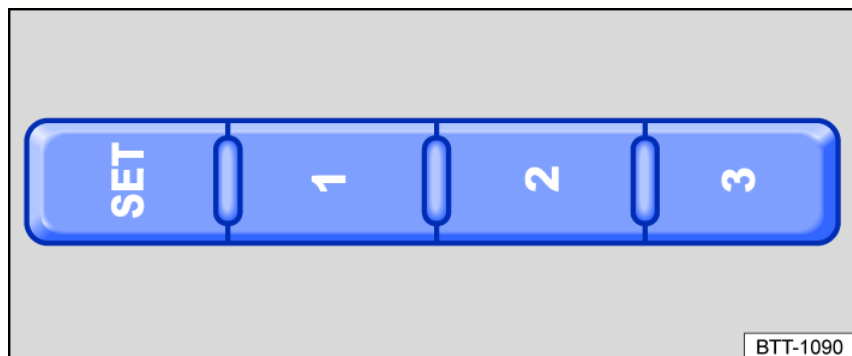

Fig. 78 On the outer side of the driver's seat: memory buttons.
- Press and hold the **SET** button for several seconds *fig. 78*.
- Press the desired memory button *fig. 78*.